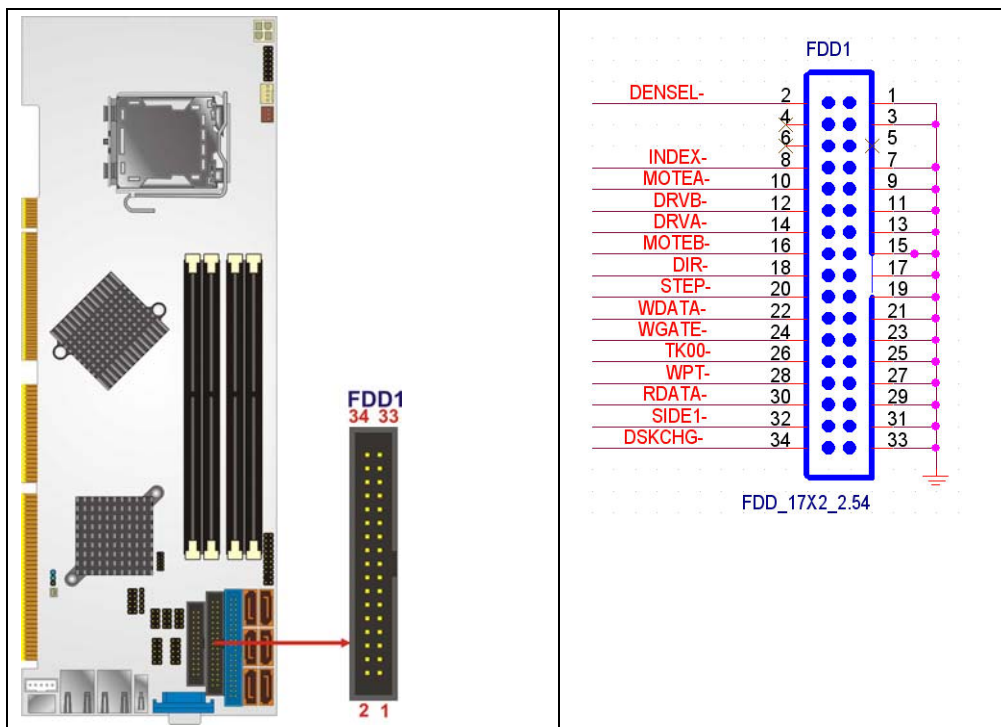

Figure 4-6: 34-pin FDD Connector Location
- CN Location:** See Figure 4-6